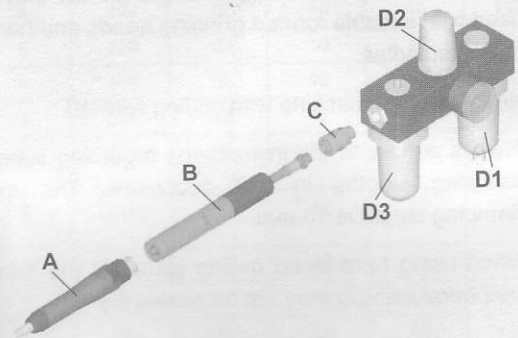

Fig. 2: Connection
- Connect the pneumatic grinder (A) to the maintenance unit (D1 – D3), using the hose kit (B) and the one-hand coupling (C) (see fig. 2).